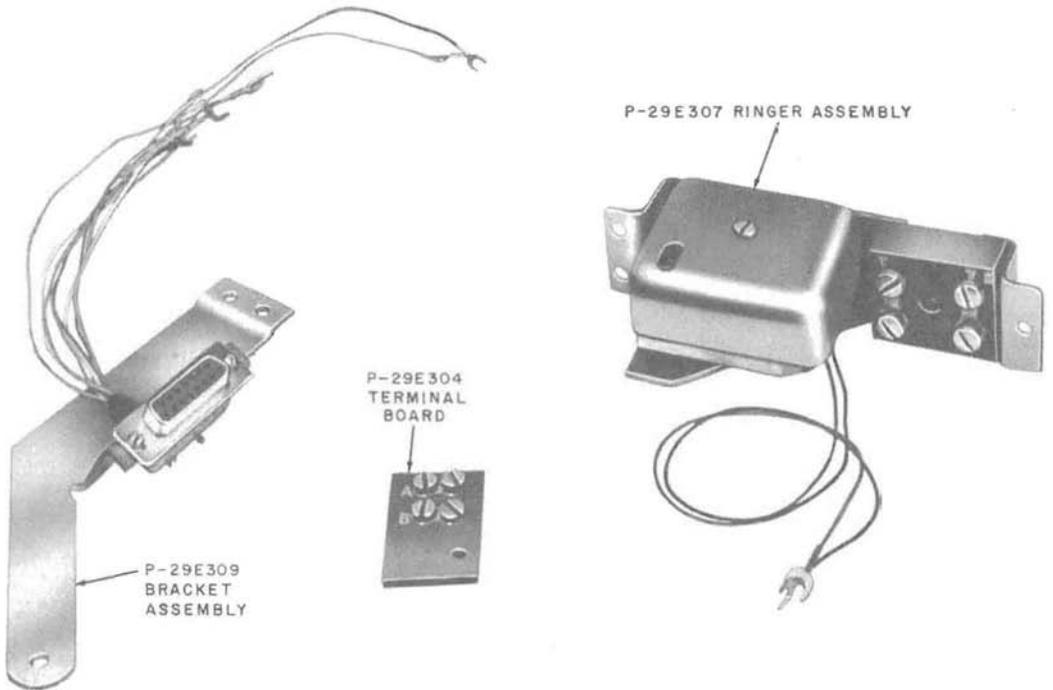
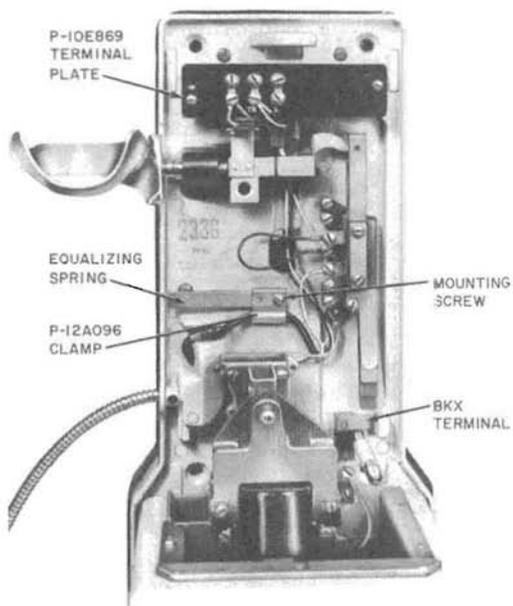

Fig. 68—D-180120 Kit For Modification of Backplate Assembly
Fig. 69—Backplate Assembly With D-180120 Kit
7.02 The D-180120 kit to be installed in the field consists of P-29E307 ringer assembly, P-29E309 bracket assembly, and P-29E304 terminal board (Fig. 68).
- (1) Disconnect wires per Table M.
- (2) Remove subscriber set.
- (3) Disconnect (BK) wire from between BBX of switchhook and BE of transfer contacts.
- (4) Remove and discard terminal plate assembly at top of backplate assembly. Retain hardware.
- (5) Install P-29E307 ringer assembly (Fig. 68) in same position as terminal plate assembly was located using the retained hardware (Fig. 69).
- (6) Remove and discard BXX transfer spring at right of coin relay. Retain mounting screw.
- (7) Remove and retain equalizing spring, cord clamp, and associated fastener.
- (8) Install P-29E309 bracket assembly (Fig. 68) to backplate per Fig. 69. Use mounting screw retained in (5) to secure bracket assembly at bottom.
- (9) At top of bracket assembly, assemble in order from backplate out, equalizing spring, cord clamp, and P-29E304 terminal board (Fig. 68). Secure with hardware retained in (6) (see Fig. 69).
- (10) Route wires through cord guides where applicable and connect per Table N.
- (11) Insert plug of upper housing, which was modified in the Distributing House, in connector on backplate and install upper housing.
- (12) Check continuity, coin handling, and ringing operation of the coin collector.